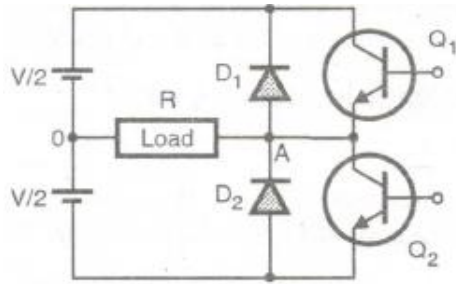

Fig.8.2 Half bridge inverter
1. The principle of single phase transistorised inverters can be explained with the help of Fig. 8.2. The configuration is known as the half bridge configuration.